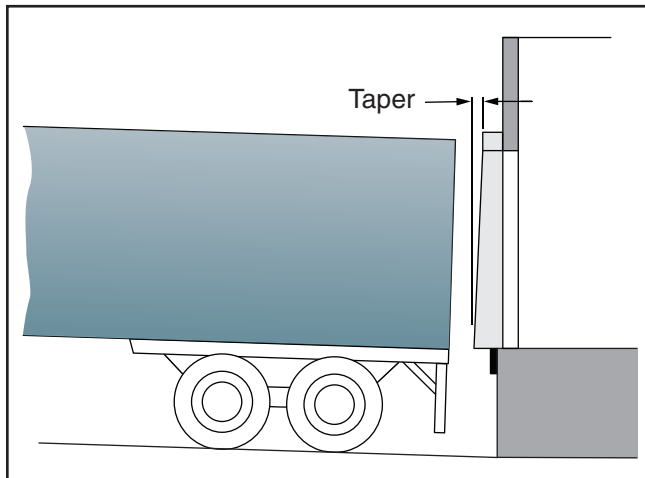

Figure 77
- For recessed driveways with a slope of more than 2% – specify a taper seal. For every 1% of driveway grade, taper the seal 1 in. for overall length (Figure 77).